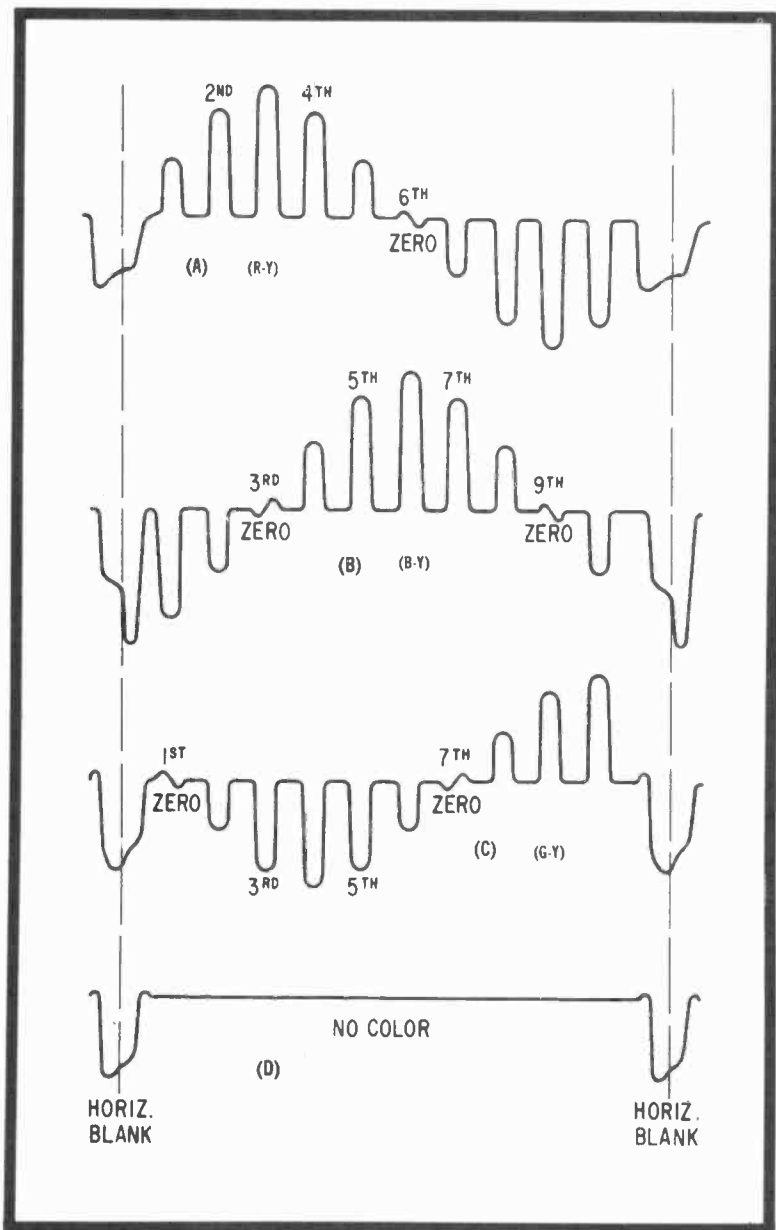

Fig. 2-7. R-Y, B-Y and G-Y reference patterns generated by a rainbow-type generator. Notice the zero nulls in all three patterns.
For the record, let's include the classic tri-phase color-bar output as it should appear so you will have an accurate reference for future demodulated chroma evaluation and comparison (Fig. 2-7). The generator we might have used appears in Fig. 2-8. Other sidelock generators and color-bar plus vectorscope patterns are exhibited in the chroma and test equipment sections. Here, the vectorscope patterns are accurately timed with the gated rainbows to show exactly how and why these color bars are produced and where the RGB-(Y) receiver outputs combine to supply the various colors. A good receiver, we might add, does NOT blend various colors within the 10 color bars, but exhibits solid shades for each individual bar so they appear fully saturated. Pastels, wrong value, or faded colors usually mean there are defects in the chroma circuitry or, in the worst instance we can think of, you're looking at a poorly designed color receiver. And then, of course, any normal repair is a little more than difficult. As you will discover later in the vectorscope timing diagrams, however, only the R-Y and B-Y outputs are used, since these are Lissajous patterns, and only inputs 90 degrees out of phase can be used. If these exciting voltages were in phase, you'd have nothing but a right or left-slanted diagonal line.
Just to keep the colorimetry in perspective, let's analyze a few points in these color test patterns and compare the generated colors in Fig. 2-9A with the idealized output drawings in Fig. 2-7 and the vectorscope color wheel in Fig. 2-9B. The first negative-going voltage is simply horizontal blanking that always precedes the start of the gated rainbow color pattern. In the first bar, with green at zero, two increments of negative-going B-Y and one positive R-Y produce a yellow orange color bar on the left. In time 2, two units of R-Y and one unit each of B-Y and G-Y (both negative-going) produce a full orange. The third bar, with two units of negative green, no B-Y, and a full three units of positive R-Y, the pic-
Fig. 2-9. A gated rainbow (sidelock) generator produces 12 color bars. Two are blanked, and either 9 or 10 should appear on any color CRT, one bar being lost, usually, in overscan (B). Vectorscope pattern of Figs. 2-7 and 2-9A combined. It can be seen on any vectorscope if the receiver is driven by a clean gated rainbow generator.